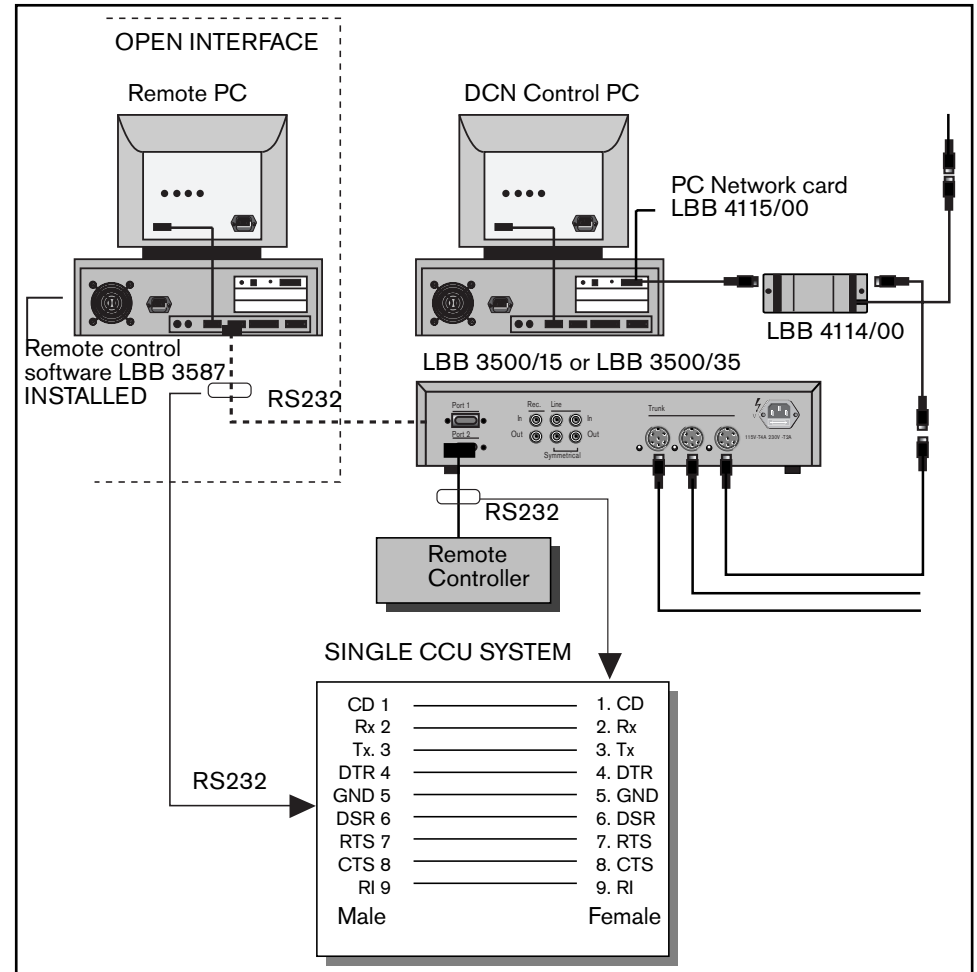

FIG 10-21 Remote control Single CCU System
1. Single CCU System (LBB 3500/15 and LBB 3500/35 (FIG 10-21)